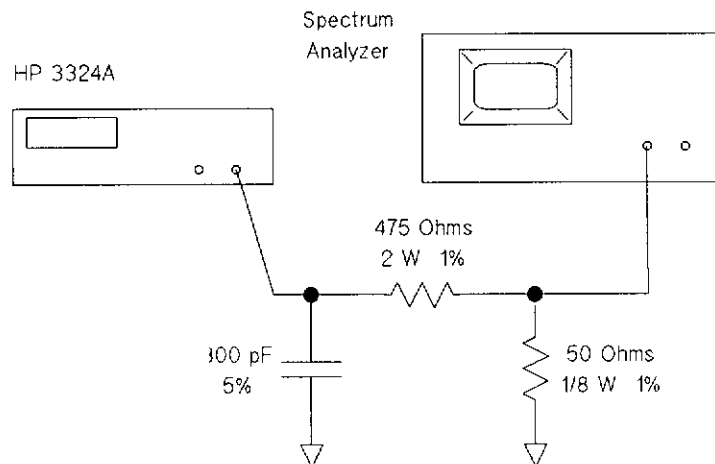

Figure C-1. Harmonic Distortion Verification Test Set-Up (High-Voltage Output)
1. Connect the HP 3324A signal output to the analyzer high-impedance input as shown in Figure C-1.